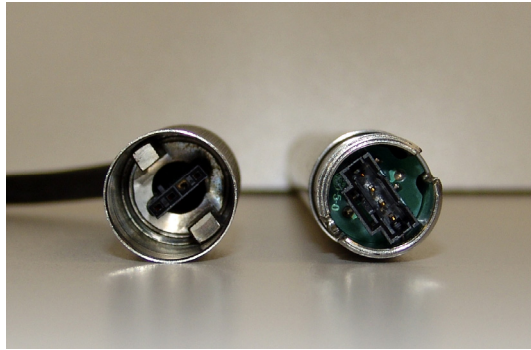

Figure 2.2
- Look inside the cable end of the connectors to view how the two sections mate together. The two keys in the transducer and cable are two different sizes. This is important to note to ensure proper alignment (figure 2.2).